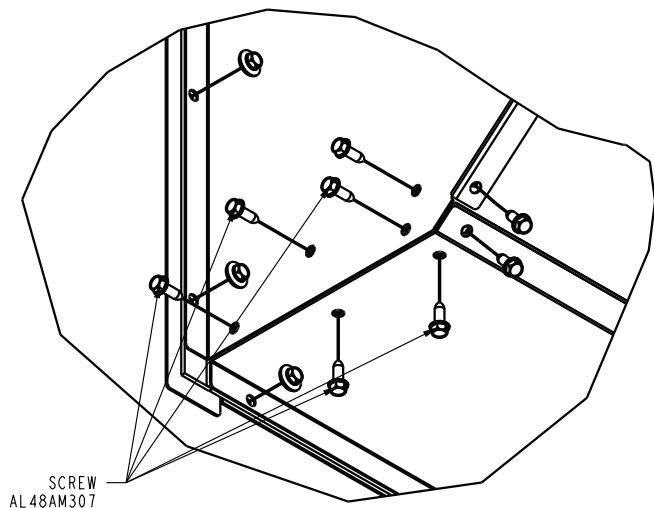

Fig. 71 — Securing the Bottom Panel
8. After attaching bottom panel to unit, attach bottom panel to side panel using the $\frac{1}{4}$ in.-14 x $\frac{5}{8}$ in. long sheet metal screws (without neoprene washer). See Fig. 71.